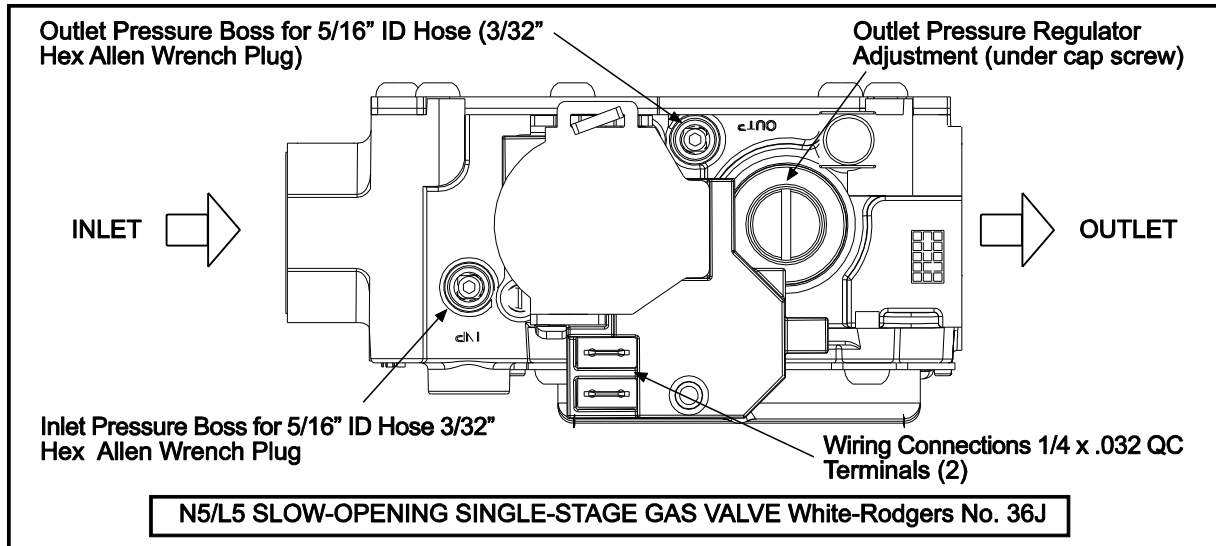

Figure 1
2. Turn the pressure test screw (3/32" Hex) in the center of the boss **not more than one turn counterclockwise**. Attach a 5/16" hose and manometer over the tapered outlet pressure boss on the valve (see **Figures 1** and **2** below). If regulator needs to be adjusted, see instructions below.
1. Turn on power and energize the main gas valve. Remove regulator cover screw (see **Figure 1** below). Turn regulator adjustment screw **clockwise**  to **increase pressure**, or **counterclockwise**  to decrease pressure. Replace regulator cover screw and tighten securely.